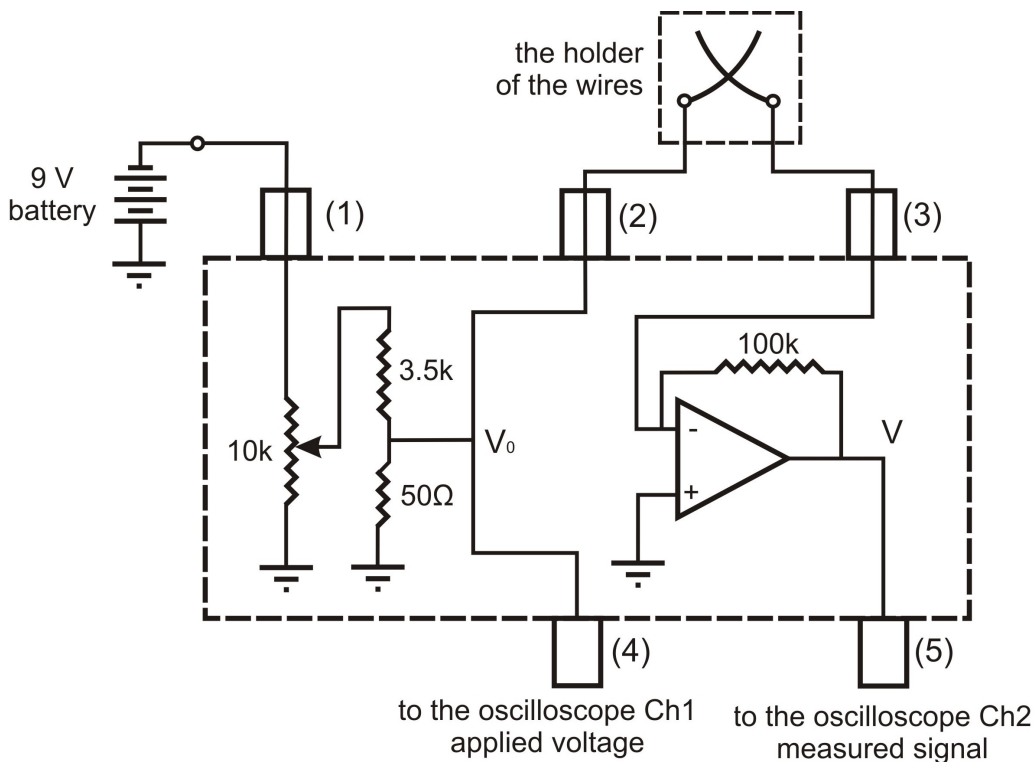

Figure 2: Diagram of the box with the electronics.
The experimental setup consists of three main parts: metal box, which comprises all the electrical components needed for the experiment, holder of the wires and an oscilloscope. The diagram of the setup is presented in Fig. 2. The metal box has a circuit board inside with a tunable voltage source and a current to voltage converter assembled on it. The voltage source is powered from a 9V battery, which is connected to the BNC connector (1) of the box. This source can give the output voltage in the range from 0 to roughly 120 mV. You can monitor this voltage by connecting the channel 1 of the oscilloscope to the connector (4) of the metal box. The output voltage from
the voltage source is applied to one of the wires of the nanocontact from the connector (2) of the box. The second wire of the nanocontact is connected to the connector (3) of the box and then further to the inverting virtual-ground input of the operational amplifier of the current to voltage (I - V) converter (see Fig.2). The output of the converter is fed to the connector (5) of the box and can be measured by channel 2 of the oscilloscope. As a result the voltage displayed on the channel 2 of the oscilloscope is proportional to the current flowing through the contact.